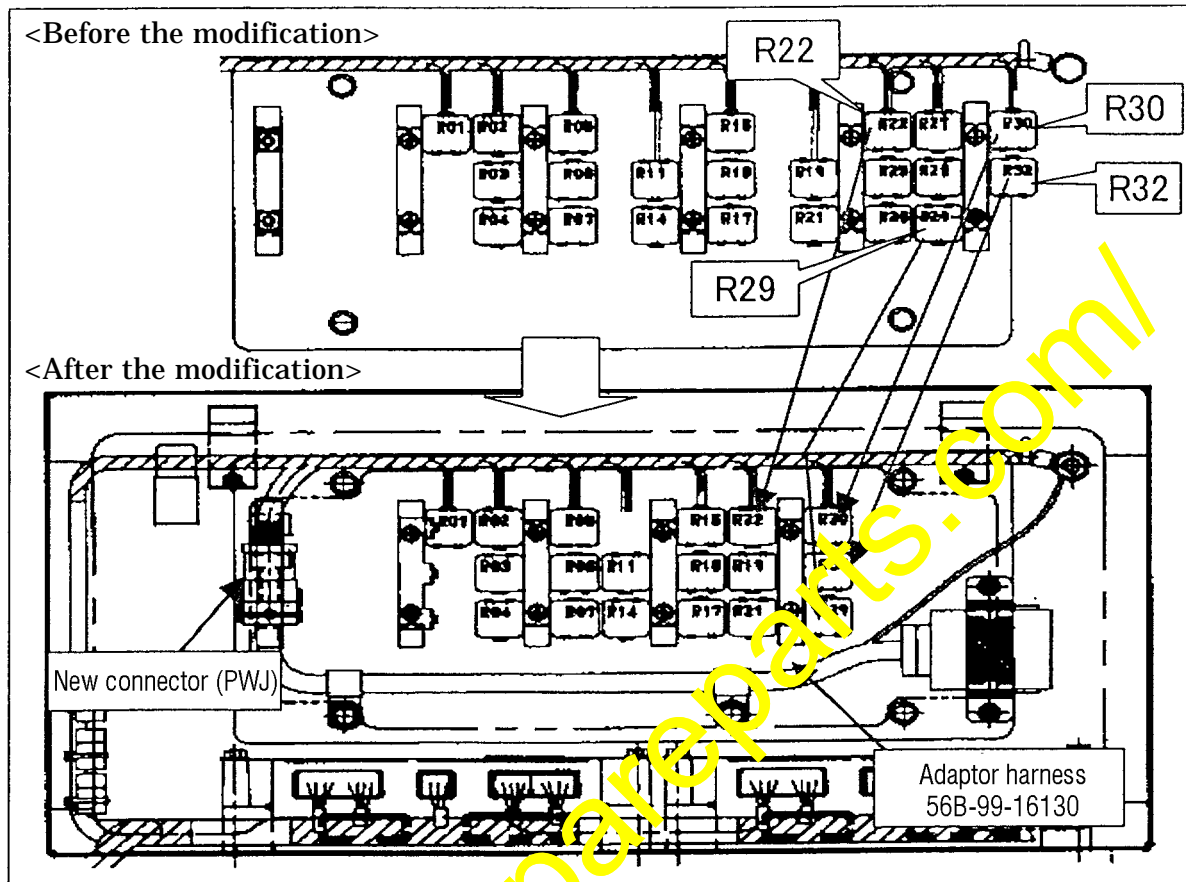

Fig. 8
- (4) Changing the layout of the relay connectors (R22, R29, R30 and R32)
- (i) Change the layout of the relay connectors (R22, R29, R30 and R32) as shown below. (Refer to Fig. 8)